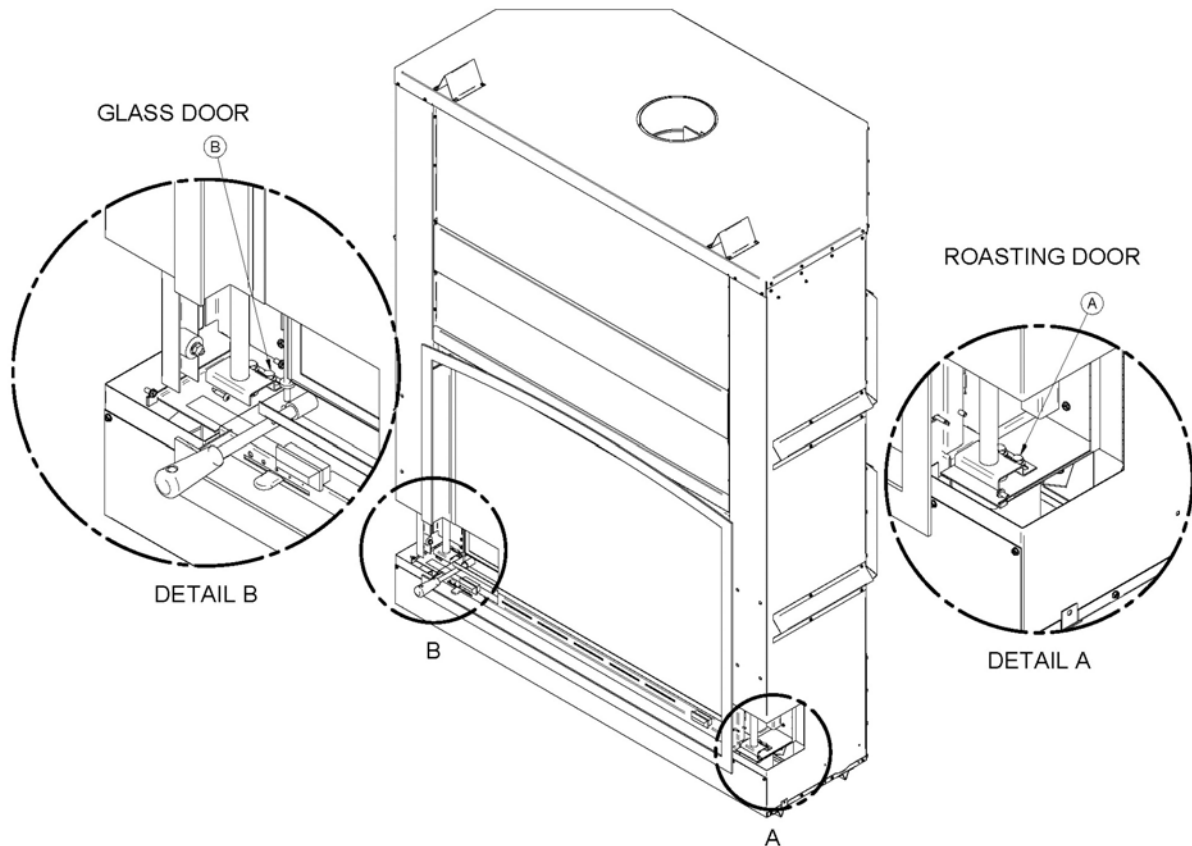

Figure 26
2. Unscrew one of the two bolts (Detail A) which are located in the lower right corner of the screen door (see **Figure 26**).
3. Unscrew the two bolts (Detail B) which are located in the lower left corner of the door (see Figure 26).